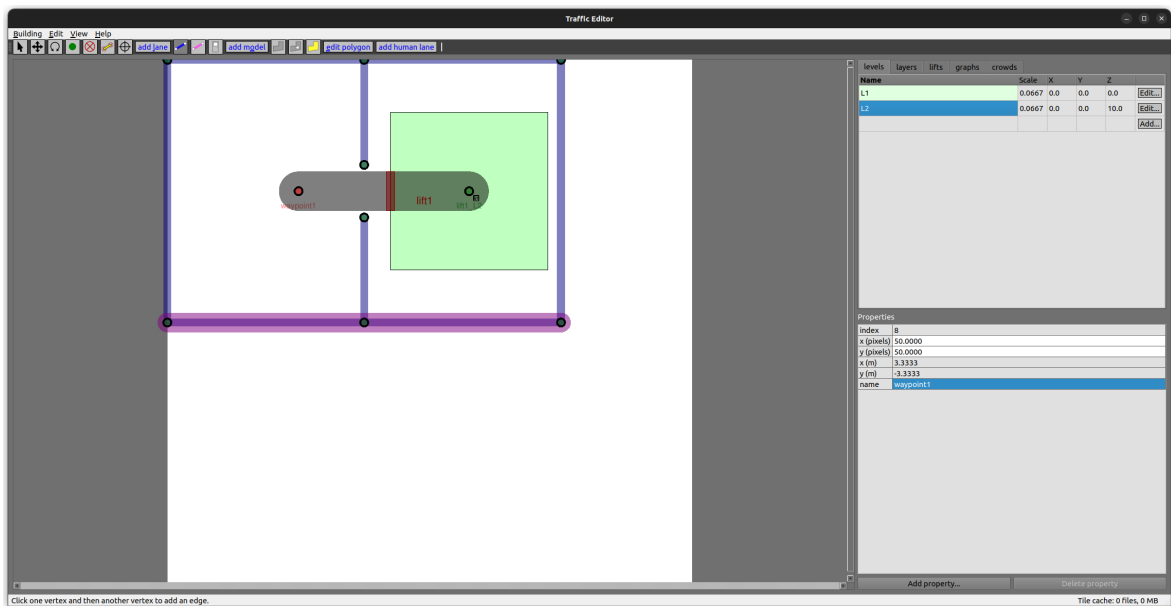

Figure 18: Second Floor
- To finish explaining all the tools, we will add a new floor and connect the floors using a lift. In this example, the doors have been removed(Figure 18).